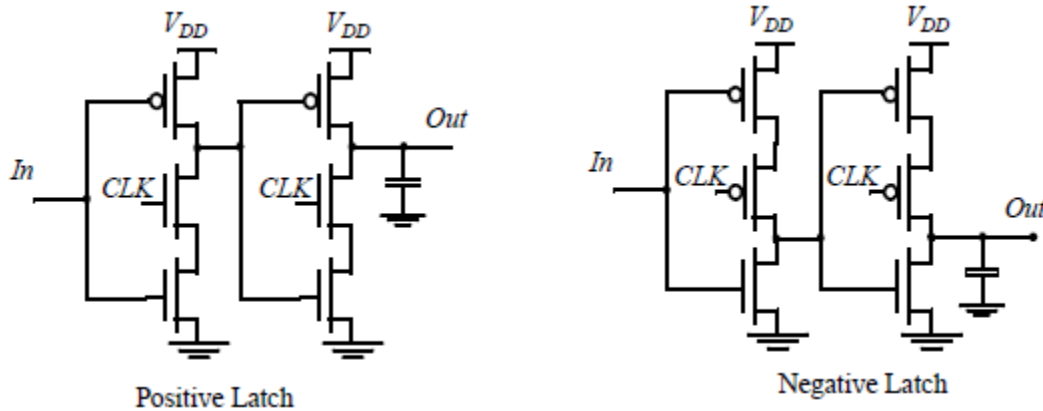

Figure 3.19 TSPC approach.
- Figure 3.19 shows positive and negative latch concept.